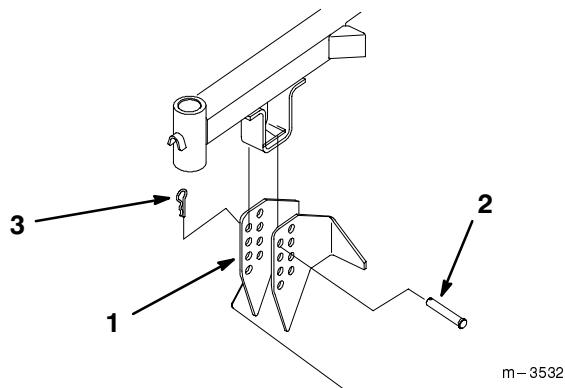

Figure 12
6. Remove hairpin cotters and clevis pins from mower hanger brackets and remove mower from carrier frame (Fig. 12).